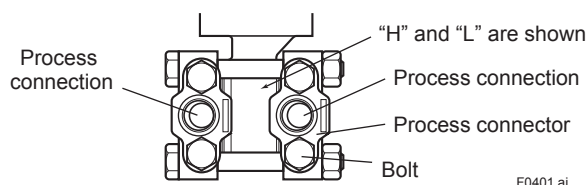

Figure 4.1 “H” and “L” Symbols on a Capsule Assembly
(1) Check the High and Low Pressure Connections on the Transmitter (Figure 4.1)